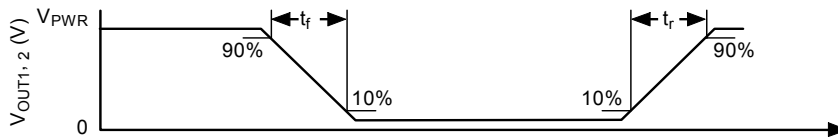

Figure 4. Output Switching Time
- Rise Time is from the 10% to the 90% level and Fall Time is from the 90% to the 10% level of the output signal. See Figure 4, page 8.